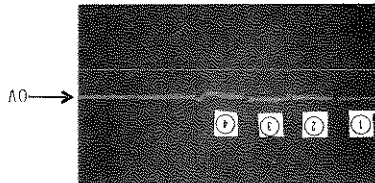

Figure 5-5. Waveforms Typically Adjusted.
- i. Adjust A4ADJ3 (A4R8) until the top of the four (4) square waves is within 0 volts  $\pm 30mV$ .
- j. The waveforms after typical adjustments of A4ADJ1, A4ADJ2 and A4ADJ3 should be as shown as in Figure 5-5.